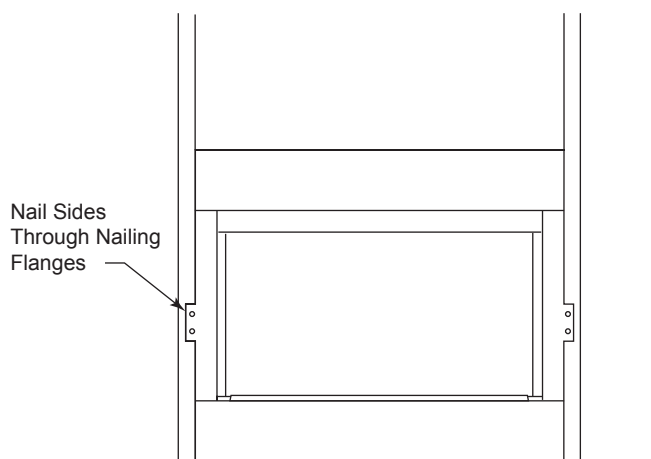

Figure 9. Nailing Flanges
4. Anchor firebox to the side framing members using 8d nails or other suitable fasteners. Figure 9